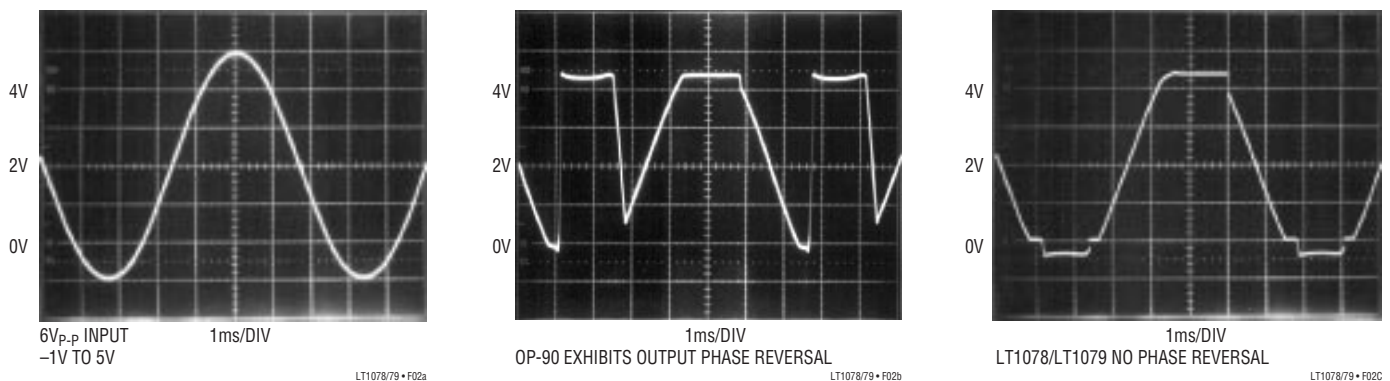

Figure 2. Voltage Follower with Input Exceeding the Negative Common Mode Range ($V_S = 5V, 0V$)
2. When the input is more than 400mV below ground (at 25°C), the input stage saturates and phase reversal occurs at the output. This can cause lockup in servo systems. Due to a unique phase reversal protection circuitry, the LT1078/LT1079 output does not reverse, as illustrated in Figure 2, even when the inputs are at -1V.